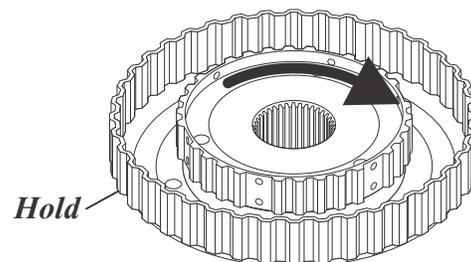

Figure 118
8. Check for proper Sprag rotation. The Second Coast Brake (B1) Hub, Sprag Inner Race must **Freewheel Clockwise and Lock Counter-Clockwise** as indicated in Figure 118.